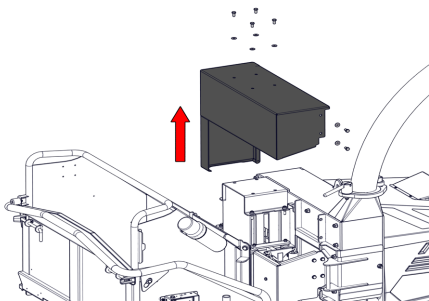

Figure 29 - Removing the Roller Box Guard
2. Unbolt and remove the roller box guard (Figure 29).